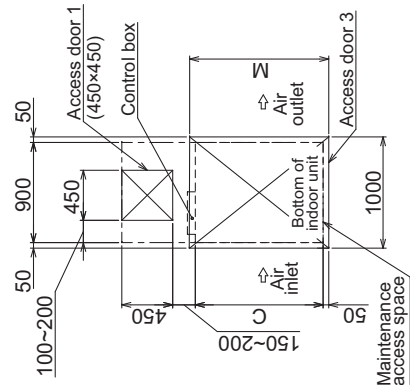

Fig.4 (Viewed from the direction of the arrow Y)
(2) When a space of less than 300mm is available below the unit between the unit and the ceiling. (At least 20mm of space should be left below the unit as shown in Fig.3.) Create access door 3 for the maintenance from the bottom when the motor, fan, heat exchanger and drain pan is cleaned(exchanged). (Fig.4)